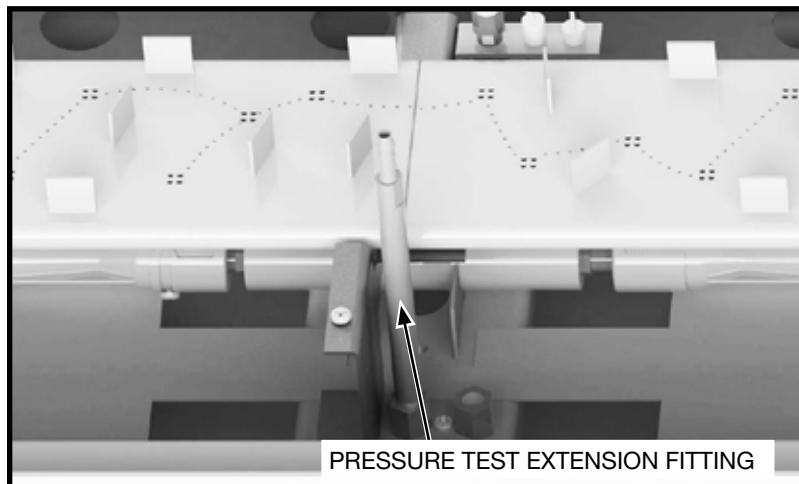

Figure 94: Pressure test extension fitting.
3. Thread the extension test fitting into the open port (Figure 94).